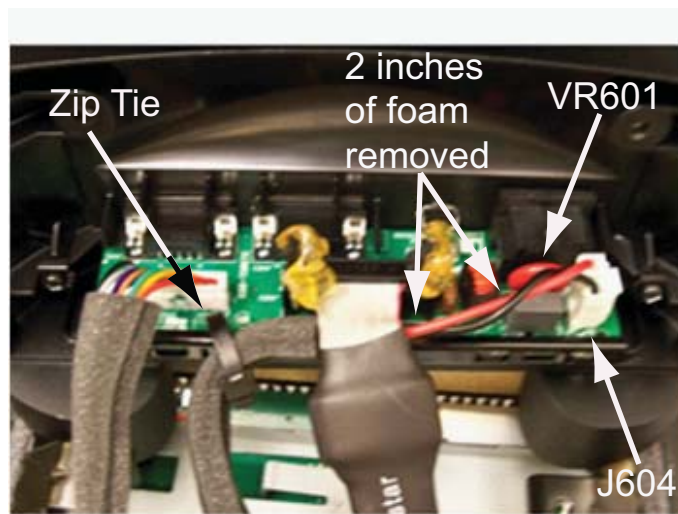

Figure 3.
2.6 Zip tie the primary PWR cable to the I/O board bracket and route the cable behind the coated flat cable as shown in figure 3.